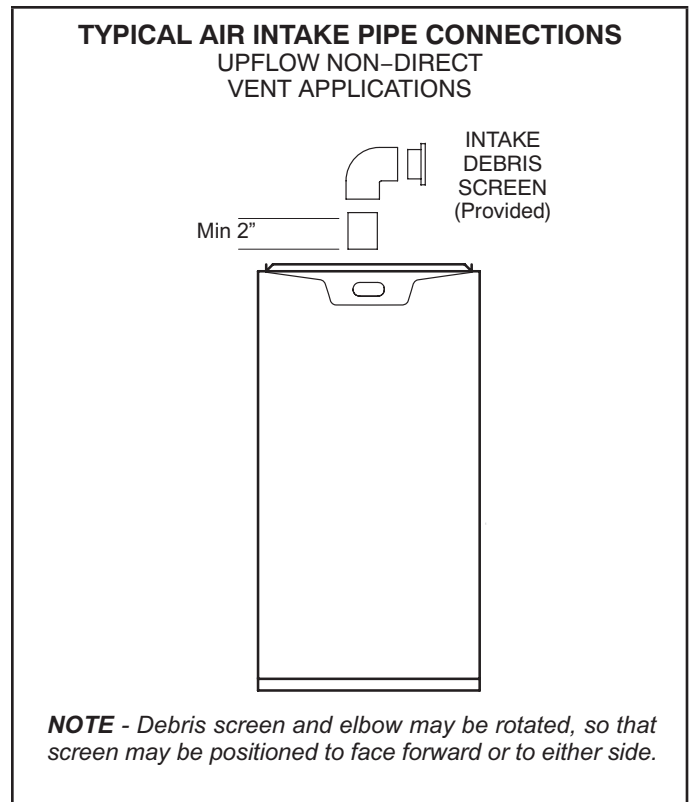

Figure 27
- 1 - Use field-provided materials and the factory-provided air intake screen to route the intake piping as shown in Figure 27 or Figure 28. Maintain a minimum clearance of 3" (76mm) around the air intake opening. The air intake opening (with the protective screen) should always be directed forward or to either side in the upflow position, and either straight out or downward in the horizontal position. **The air intake piping must not terminate too close to the flooring or a platform. Ensure that the intake air inlet will not be obstructed by loose insulation or other items that may clog the debris screen.**